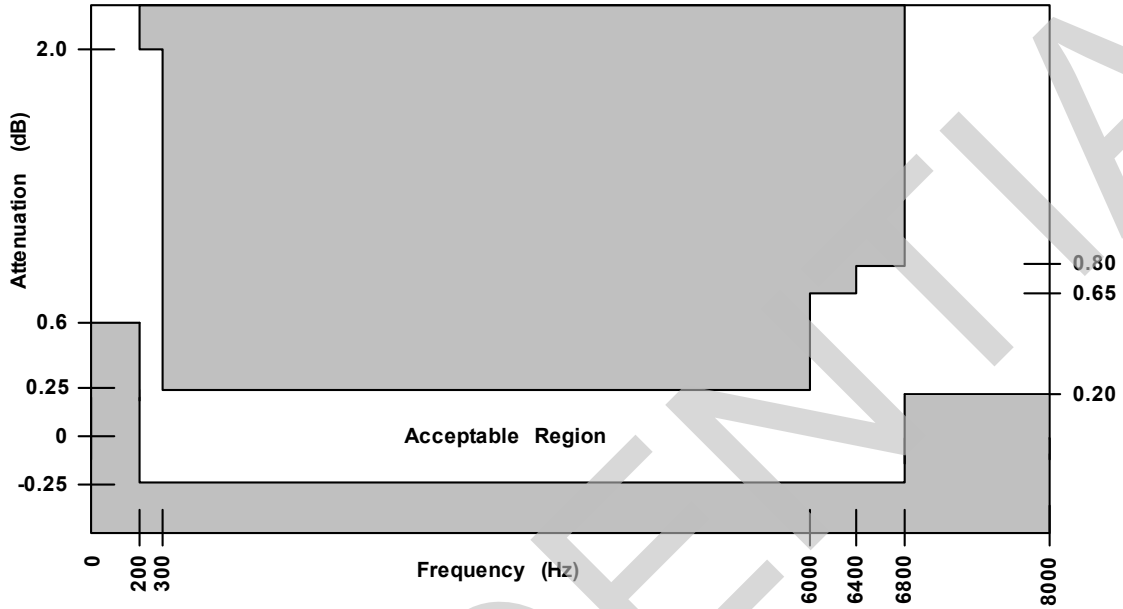
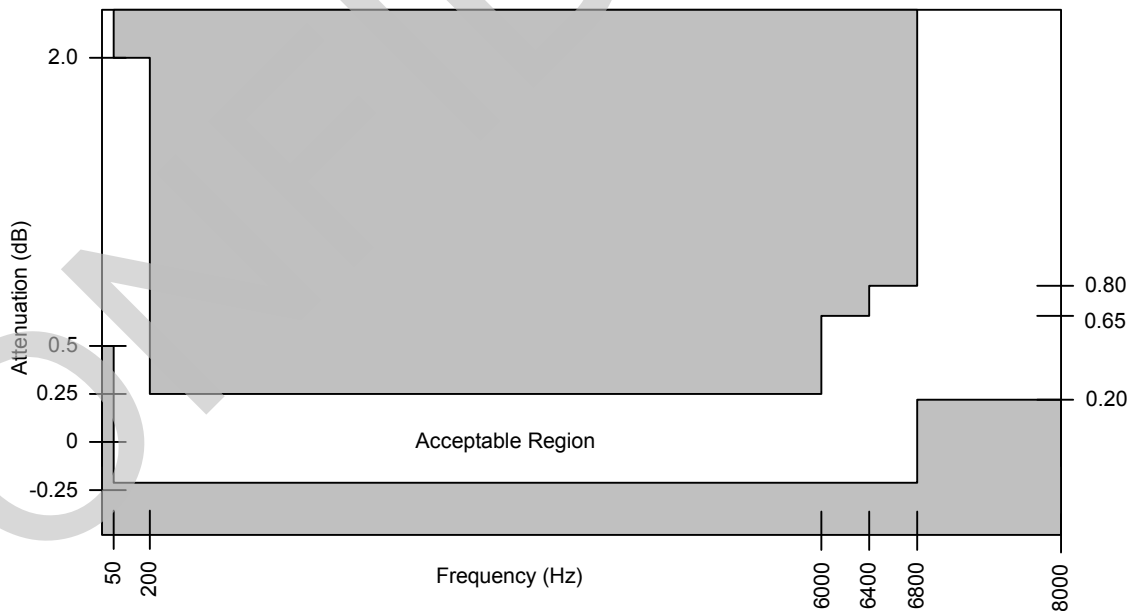

Figure 27 - Transmit (A to D) Path Attenuation vs. Frequency - (with High-Pass Filter Enabled)
Figure 28 - Receive (D to A) Path Attenuation vs. Frequency
3. See Figure 27, "Transmit \(A to D\) Path Attenuation vs. Frequency - \(with High-Pass Filter Enabled\)" on page 45 and Figure 28, "Receive \(D to A\) Path Attenuation vs. Frequency" on page 45.
The signal attenuation in either path is nominally independent of the frequency. The deviations from nominal attenuation will stay within the limits shown in Figure 27 and Figure 28. The reference frequency is 1014 Hz and the signal level is -10 dBm0.